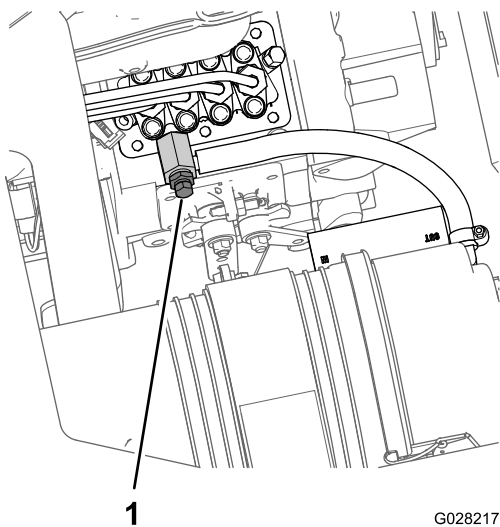

Figure 80
8. Align the drain pan under the fuel-injection pump portion of the engine (Figure 80).
9. Open the air-bleed screw at the fuel-injection pump (Figure 80).
11. Leave the key in the ON position until a solid stream of fuel flows out around the bleed screw (Figure 80).
12. Tighten the bleed screw (Figure 80) and turn the key to the OFF position.